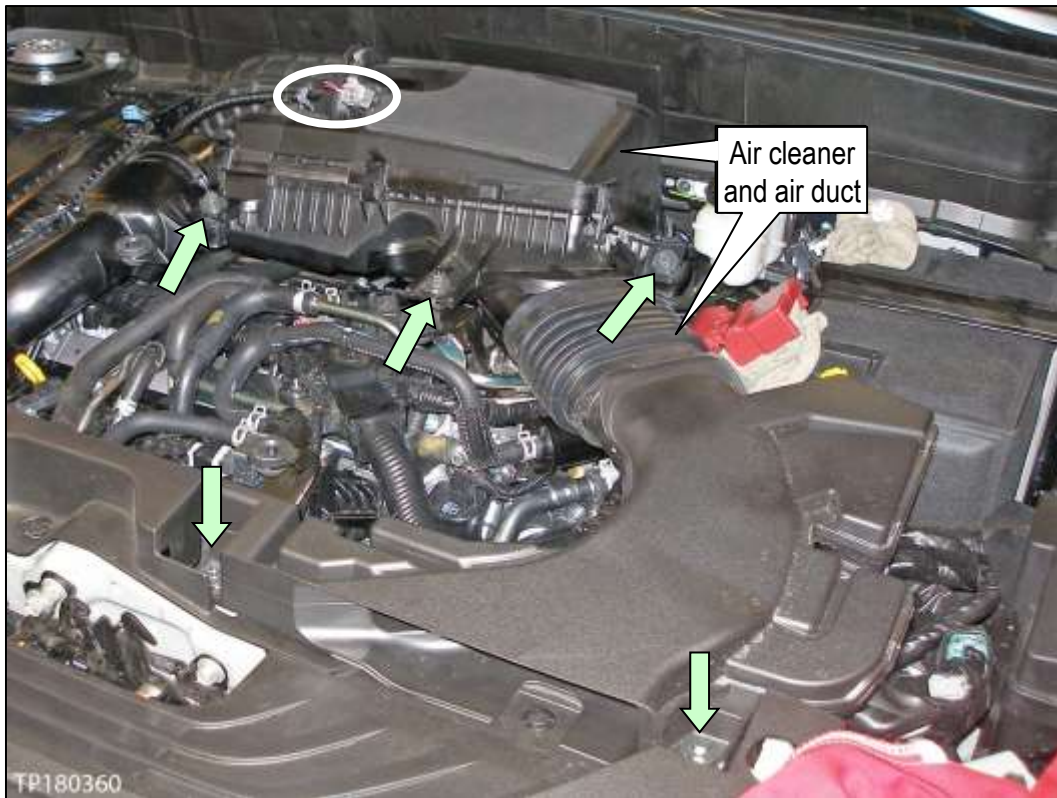

Figure 86
- c. Connect the mass air flow sensor connector, and then fasten the electrical harness clip (see circle in Figure 86).
- d. Install and tighten the nut and bolts (see arrows in Figure 86).